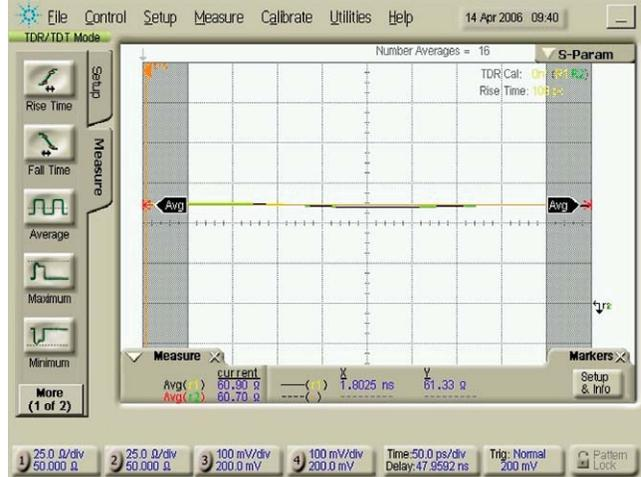

Figure 5. Common Mode Impedance
- 3 Using the average measurement function measure and note the average impedance for response 1 - line 2, and response 2 - line 3 (See Figure 5). That is the average even mode impedance for each line.
- 3 Using the average measurement function measure and note the average impedance for response 3 - line 5, and response 4 - line 6 (see Figure 5). That is the average even mode impedance for each line.